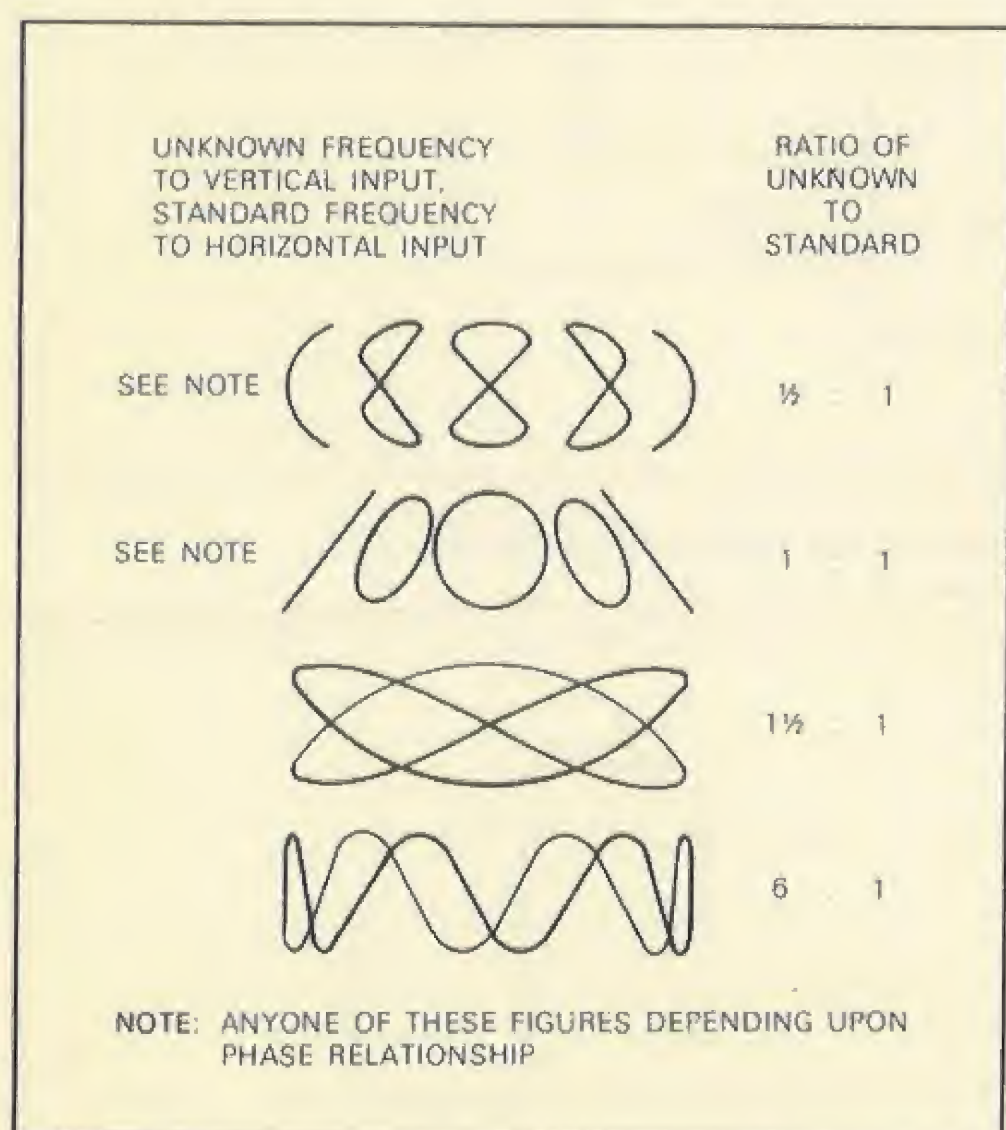

Fig. 11 Lissajous' waveforms used for frequency measurement
4. The resulting Lissajous' pattern shows the ratio between the two frequencies (see Fig. 11).